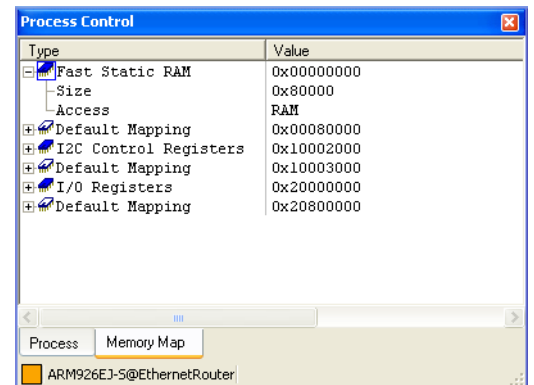

Figure 5-22 RAM memory block in the Memory Map tab
4. Select **View** → **Memory Map Tab** from the Code window main menu to open the Process Control view with the **Memory Map** tab selected. Figure 5-22 shows an example: